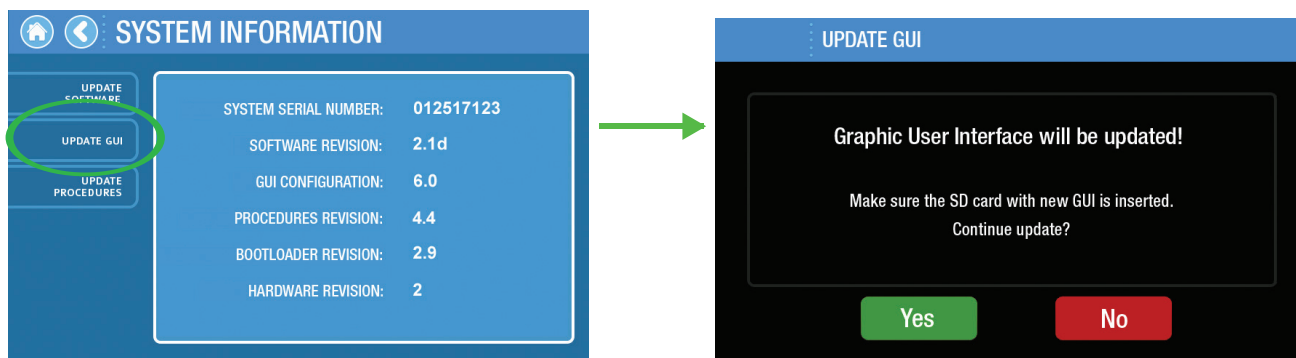

Figure 8.28
- The screen will display a confirmation screen before initiating the update (Figure 8.28).